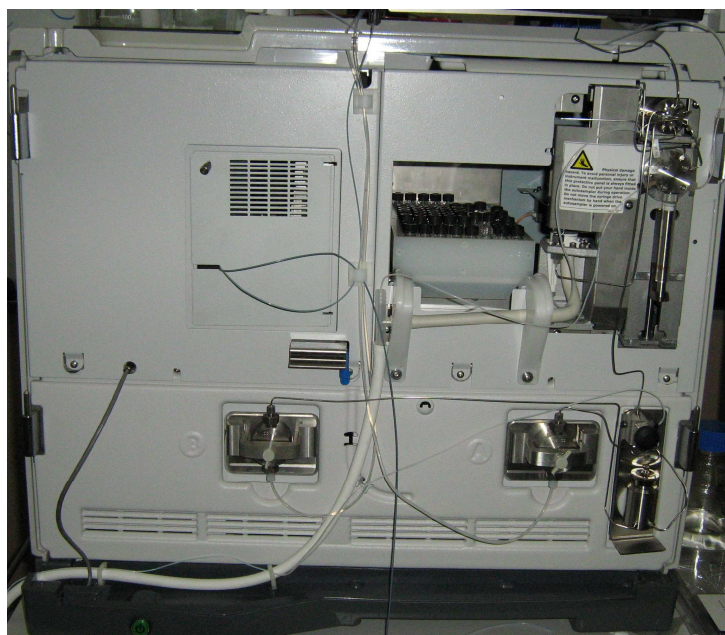

Figure 3: 940-LC instrument with external doors removed
4. Once the doors have been successfully removed, your instrument should look like the one in Figure 3.